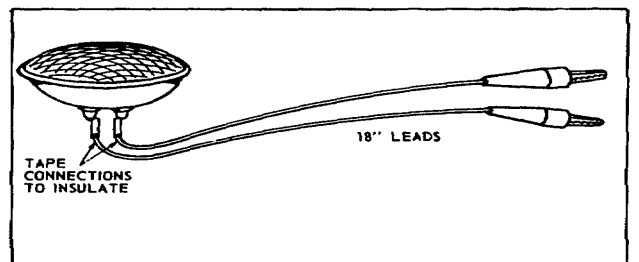

Fig. 149 - Load Lamp
G.E. No. 4001 sealed beam headlight or equivalent. Available from automotive parts supplier. Attach leads and clips as shown in Figure 149.